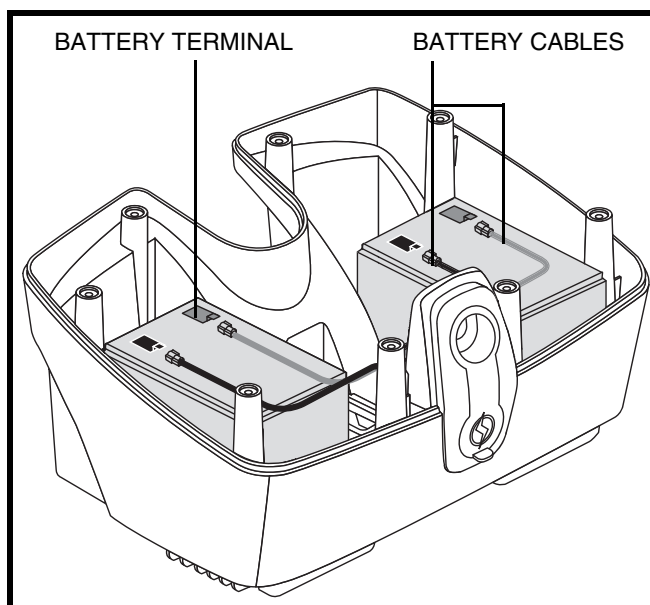

Figure 15. Battery Replacement
3. Remove the eight (8) screws from the perimeter of the battery pack.
5. Disconnect the black (-) and red (+) battery cables from the battery terminals. **See figure 15.**